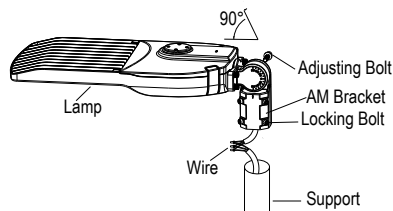

Figure 20
3. Adjustable Fitter Mounting (AM)
Step 1: Loosen the four bolts on the AM bracket, connect the wires correctly, and thread the wires into the poles (Figure 20).
Notice: The adjustable angle range is 0-90° (Figure 20).